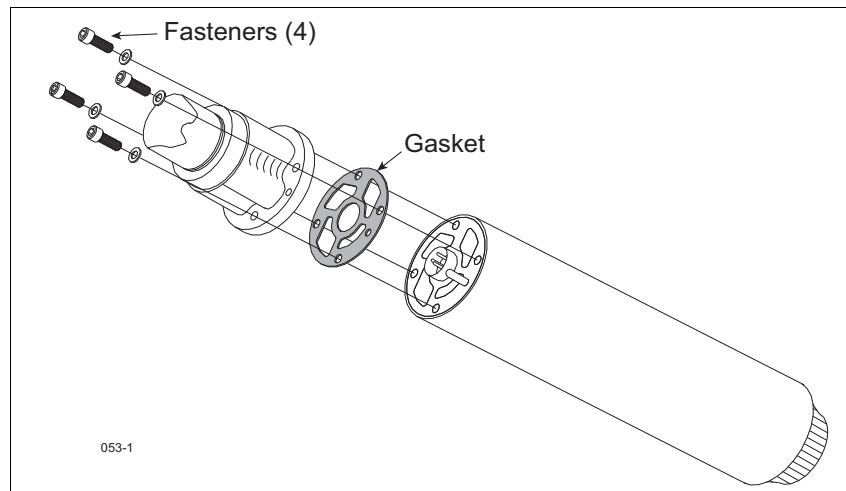

Figure 7. UMP Bolts And Gasket
8. Remove the old UMP by removing the four bolts holding the discharge head as shown in Figure 7. Discard the old gasket and fasteners.